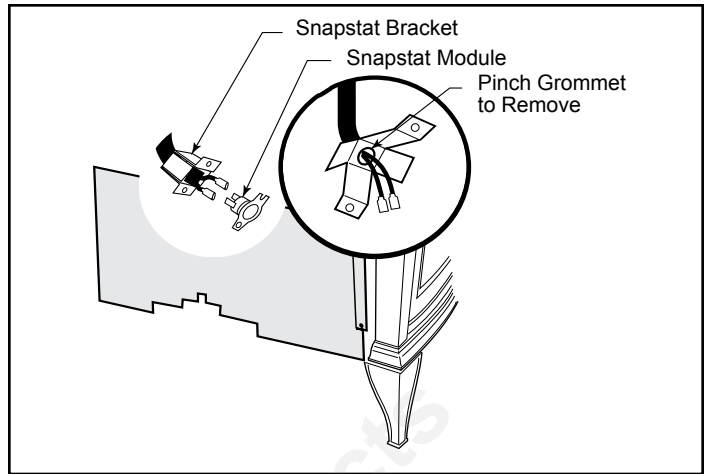

Figure 60 - Remove the snapstat and grommet from the bracket.
2. Connect snapstat leads. Disconnect the snapstat module from the leads inside the snapstat bracket. (Figure 60) Bend open the snapstat bracket. Use needle nose pliers to remove the black plastic grommet from the bracket. Discard the bracket. Connect the two wires to the two snapstat extension leads provided with the parts bag (wires with the sleeve).